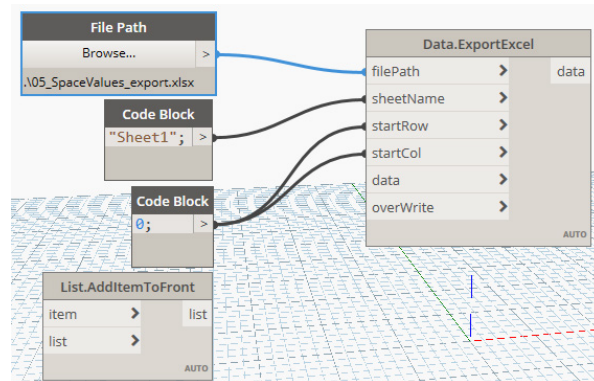

FIGURE 66
27. Wire this into the **filePath** input (see Figure 66).